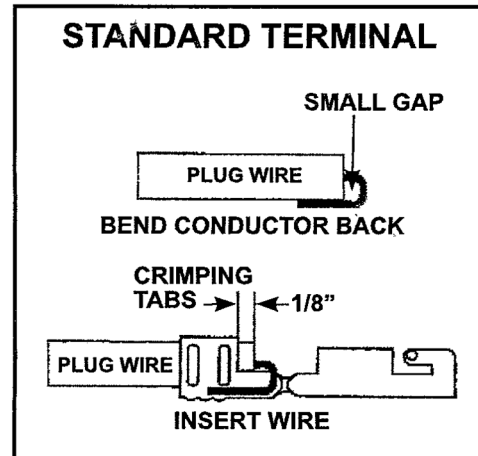

Figure 4 Positioning the wire in the terminal
1. After stripping the sleeve, fold the conductor back along the wire insulation (Figure 4).